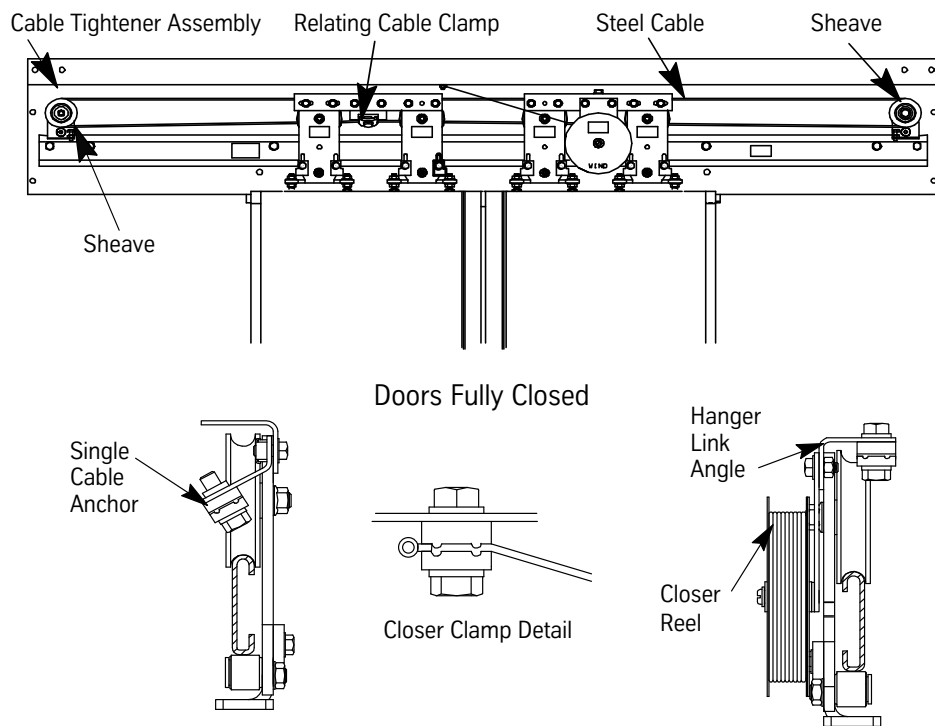

Figure 33 - Door Relating Cable Adjustment
2. Fully close the hoistway doors. See Figure 33 for all remaining steps in this procedure.